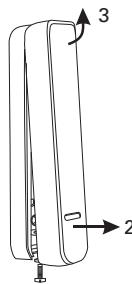

Fig. 2: Cover removal /
2. Remove the cover (see Fig. 2).